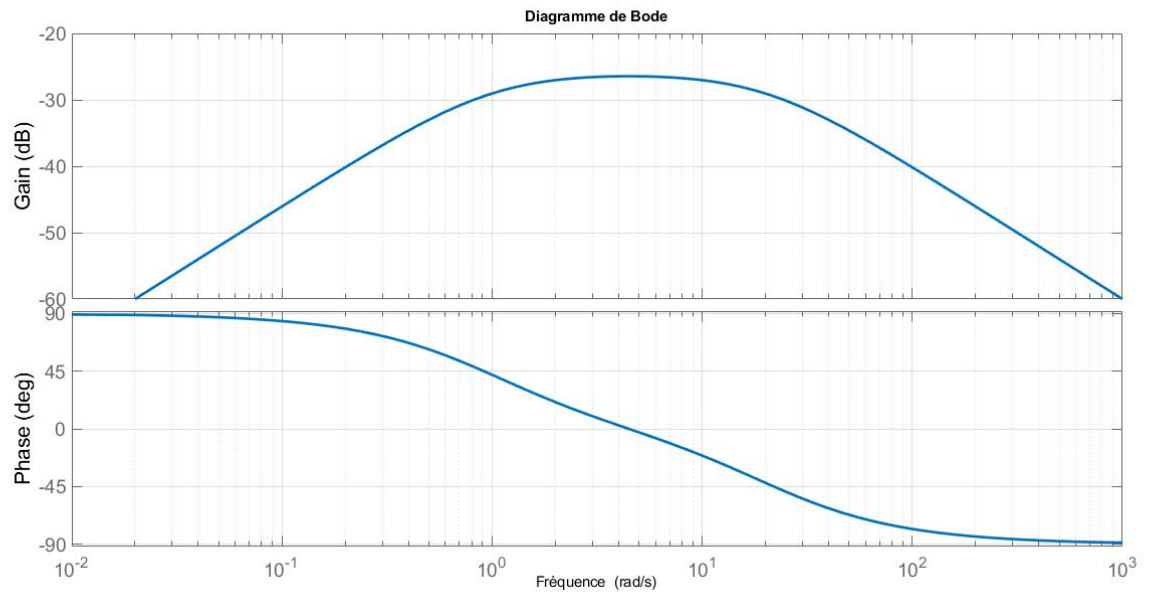

Figure 3: Bode diagram of $G_2(s)$
- 2) $G_2(s)$: See the Bode diagram shown in figure 3. The plateau is at around -26.0 dB.